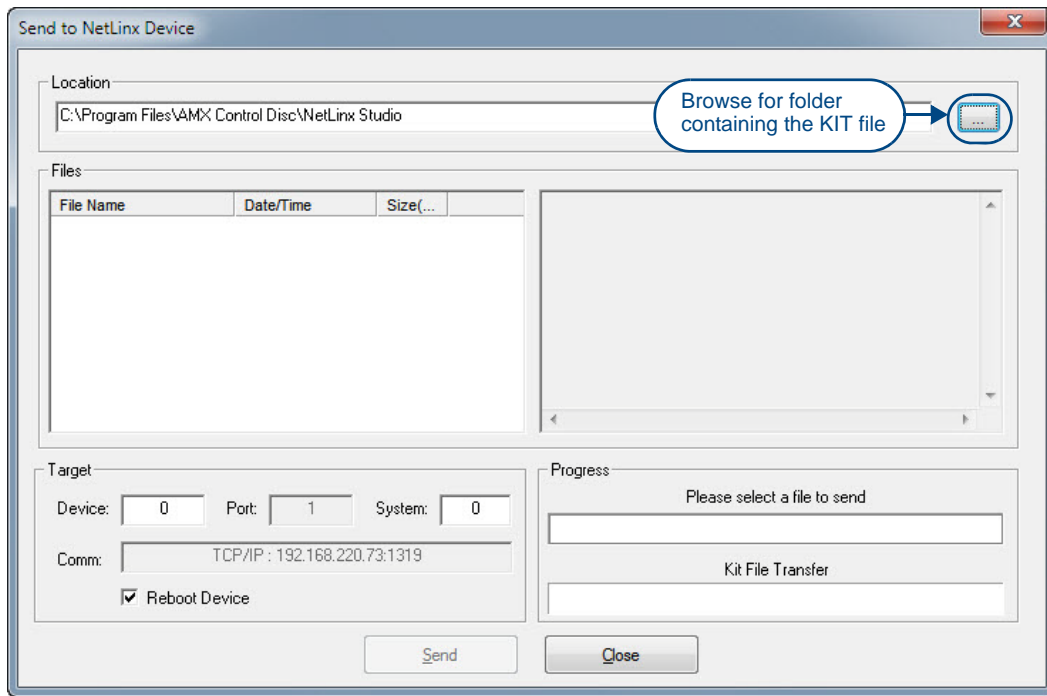

FIG. 62 Send To NetLinx Device dialog box (NetLinx Studio)
1. Choose **Tools > Firmware Transfers > Send to NetLinx Device** to open the **Send To NetLinx Device** dialog box (FIG. 62).